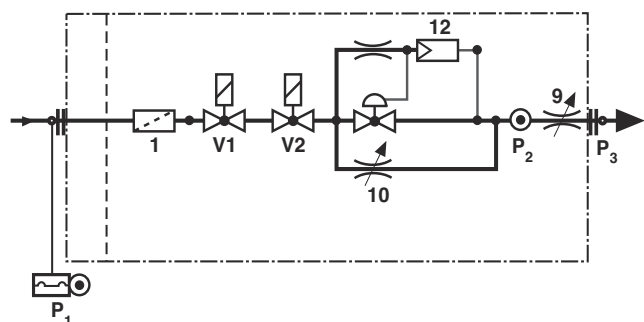

Fig. 9
- A.** measuring nozzle P2 (Fig. 9) before valve D
- C.** startup valve (no. 10 in Fig. 9)
- D.** maximum flow rate valve(no. 9 in Fig. 9)